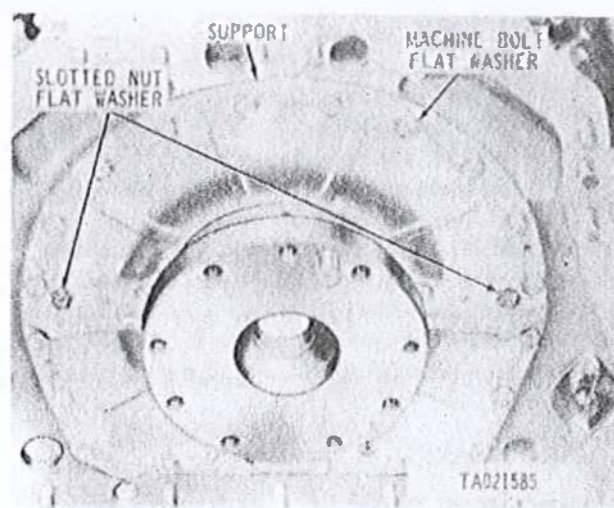

Figure 3-122. Removing or installing crankshaft oil seal cap and housing mounting bolts.
f. Cut locking wire and remove four slotted nuts and flat washers (fig. 3-122) attaching oil seal cap to oil seal housing, and twenty machine bolts and flat washers attaching oil seal cap and housing to crankcase assembly.